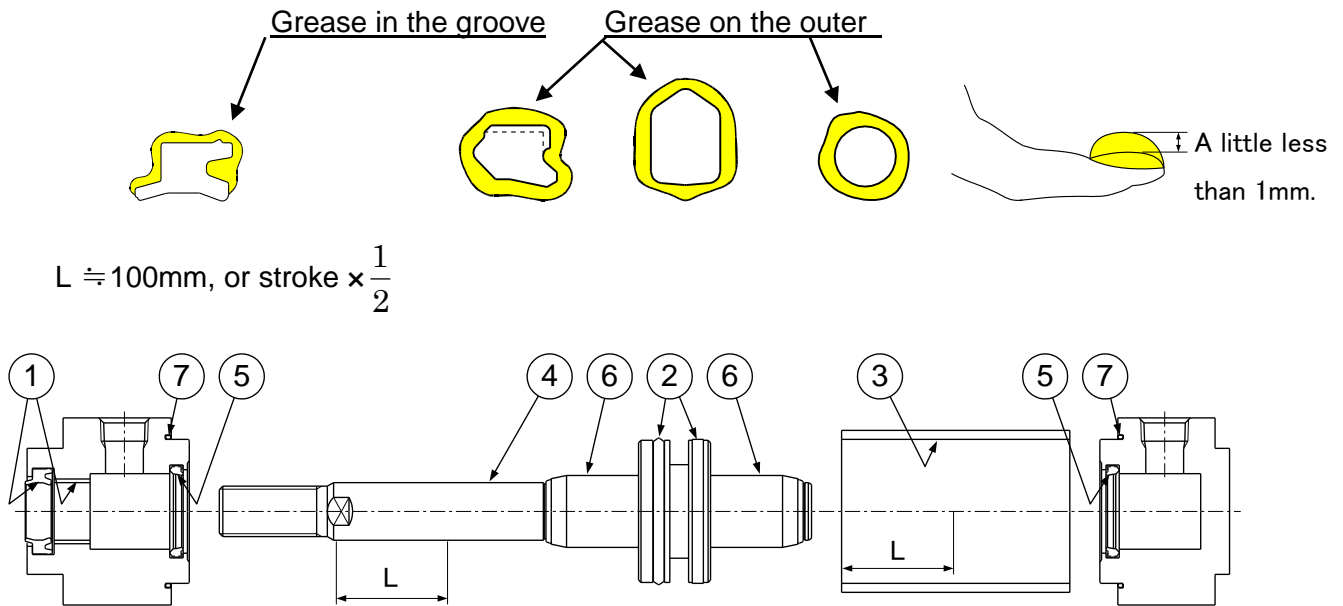

Fig. 9 Position for application of grease
Grease is applied to the locations shown in Fig. 9. The amount of grease per cylinder of 100 stroke is shown in attached table 10. Roughly, one scoop with a forefinger is approximately 3g.
1) Rod seal, Cushion seal (Fig.9, ①⑤)
2) Piston seal (Fig. 9, ②)
3) Tube gasket (Fig. 9, ⑦)